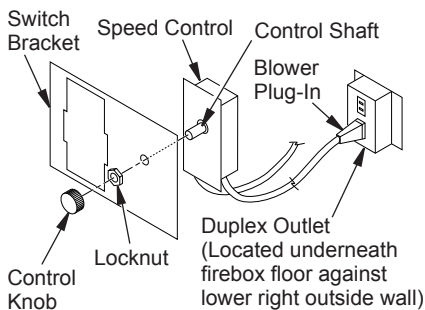

Figure 26 - Attaching Speed Control to Firebox
5. Mount speed control box to switch bracket by placing the plastic control shaft forward through the round opening in the switch bracket (see Figure 26).
5. Mount the speed control box against the mounting plate provided in the lower fireplace cavity by placing the plastic control shaft forward through the round hole (see Figure 26, page 19).
6. While supporting speed control, secure control shaft with lock nut by pushing and turning lock nut with pliers clockwise until it is tight against mounting plate. Place control knob provided on shaft (see Figure 26, page 19).